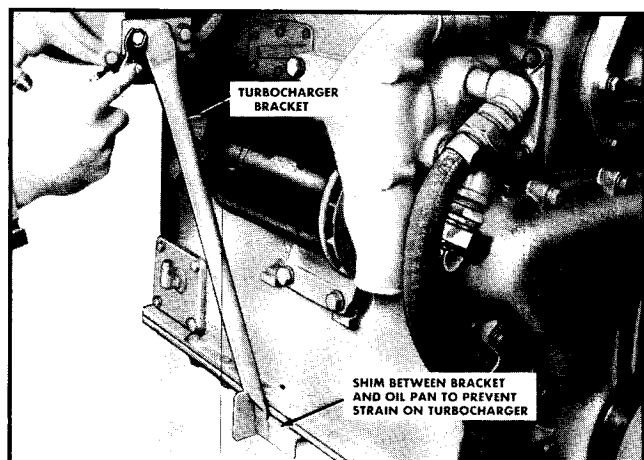

Fig. 4-7. Turbocharger support bracket
3. Secure mounting bracket to turbocharger casing. Fig. 4-7.